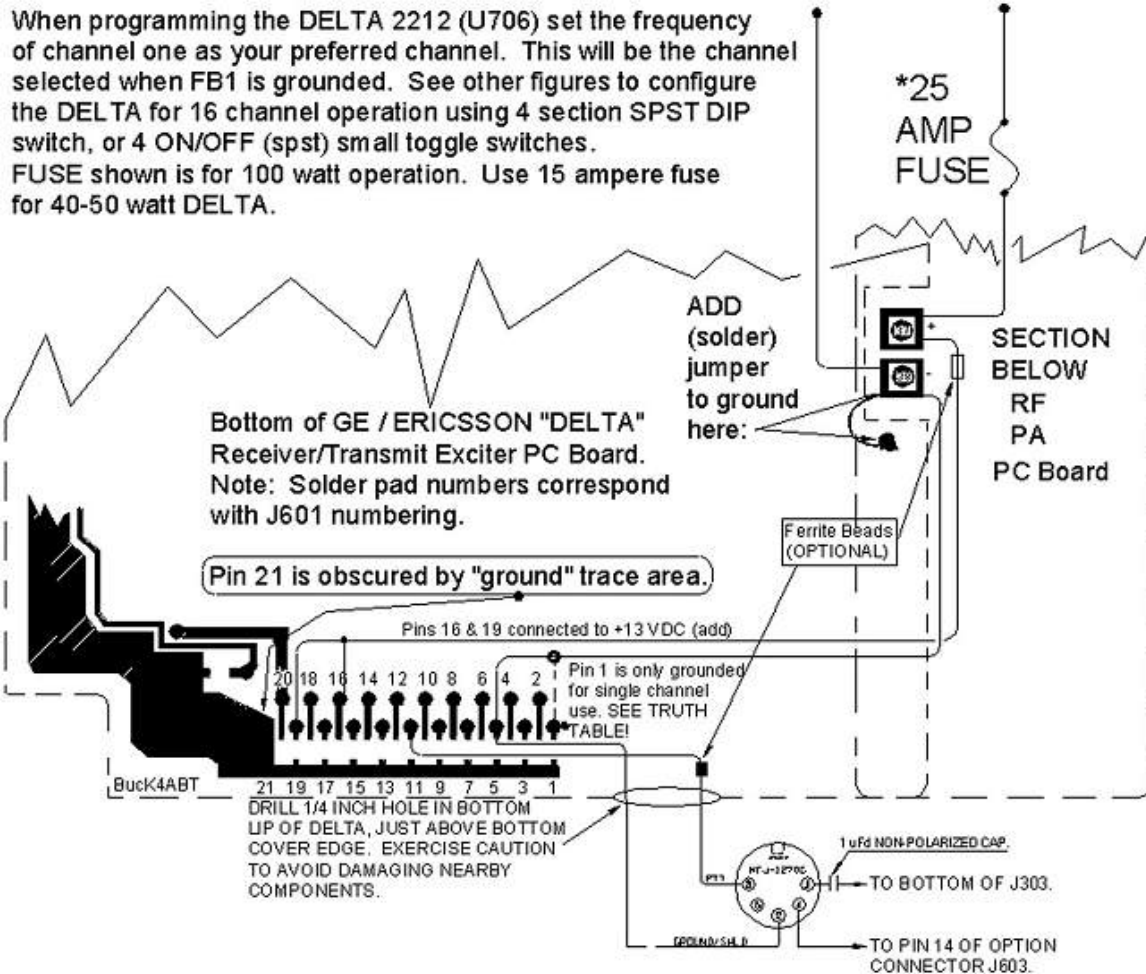

FIGURE 3
Use the drawing at figure 3 to make the connections for the "Push-To-Talk" line. You will also use the same drawing to make the ground connections for pins 5, and 21, of J601. If you are using the GE (ERICSSON) DELTA as a single channel node, you may also ground pin one (1) of J601.